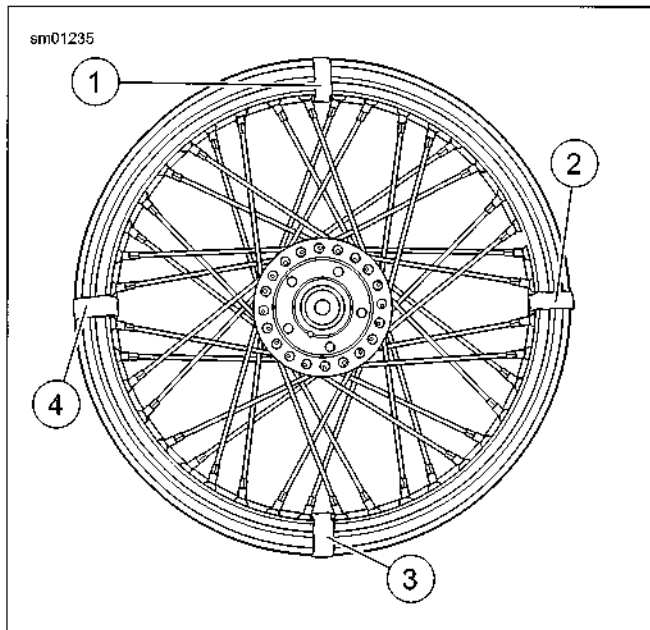

Figure 2-42. Marking Spoke Groups
1. See Figure 2-42. Place a piece of tape to mark the center of each group of four spokes as shown. The groups should be directly opposite one another and approximately 90